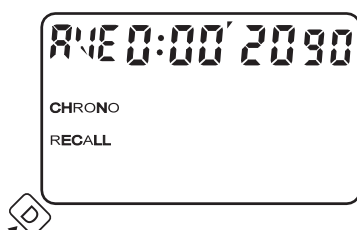

Fig. 12
- Press D again to show the average LAP time, as shown in Fig.12.